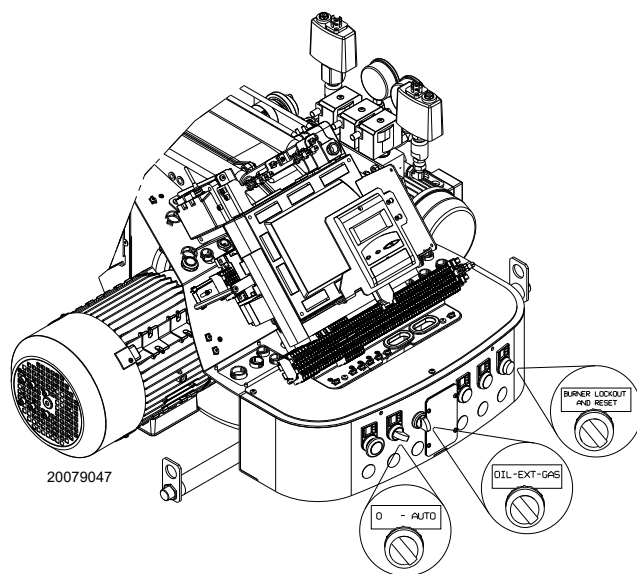

Fig. 30
Position the selector “OIL-EXT-GAS” (Fig. 30 on page 35) on “OIL” to select the light oil fuel.
Close the thermostats/pressure switches and set the switch of Fig. 30 on page 35 to “AUTO”.
- put the switch of Fig. 30 to “0” and wait until the flame control carries out the switching off phase;
Close the remote controls and position the selector (Fig. 30 on page 35) on "ON".
Put the selector (Fig. 30 on page 35) on "GAS" to select gas as the fuel.
- 1 with selector (Fig. 30 on page 35);
Positioning the selector (Fig. 30 on page 35) to "EXT" activates the remote selection of the fuel. In this position, if there is no remote selector, the display shows the priority fuel.